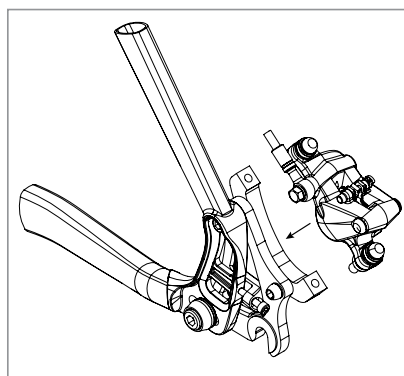

Figure 3
3. Install the rear brake caliper, rear wheel, and then align and secure the brake caliper to the rotor per the brake manufacturer's instructions (fig 3).